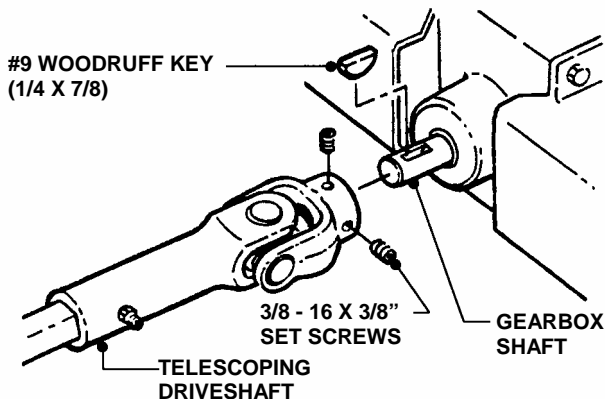

FIGURE 5
STEP 6: Remove contents of hardware bag which includes (1) #9 Woodruff Key and (2) 3/8"-16 x 3/8" Set Screws. Place Woodruff Key onto Gear Box Shaft on mower deck. Slide Power Transfer Shaft over Gear Box Shaft and make sure Woodruff Key remains in its position. See Figure 5.
- STEP 7:** Secure Transfer Shaft to Gear Box Shaft using two screws. See Figure 5. Tighten securely.